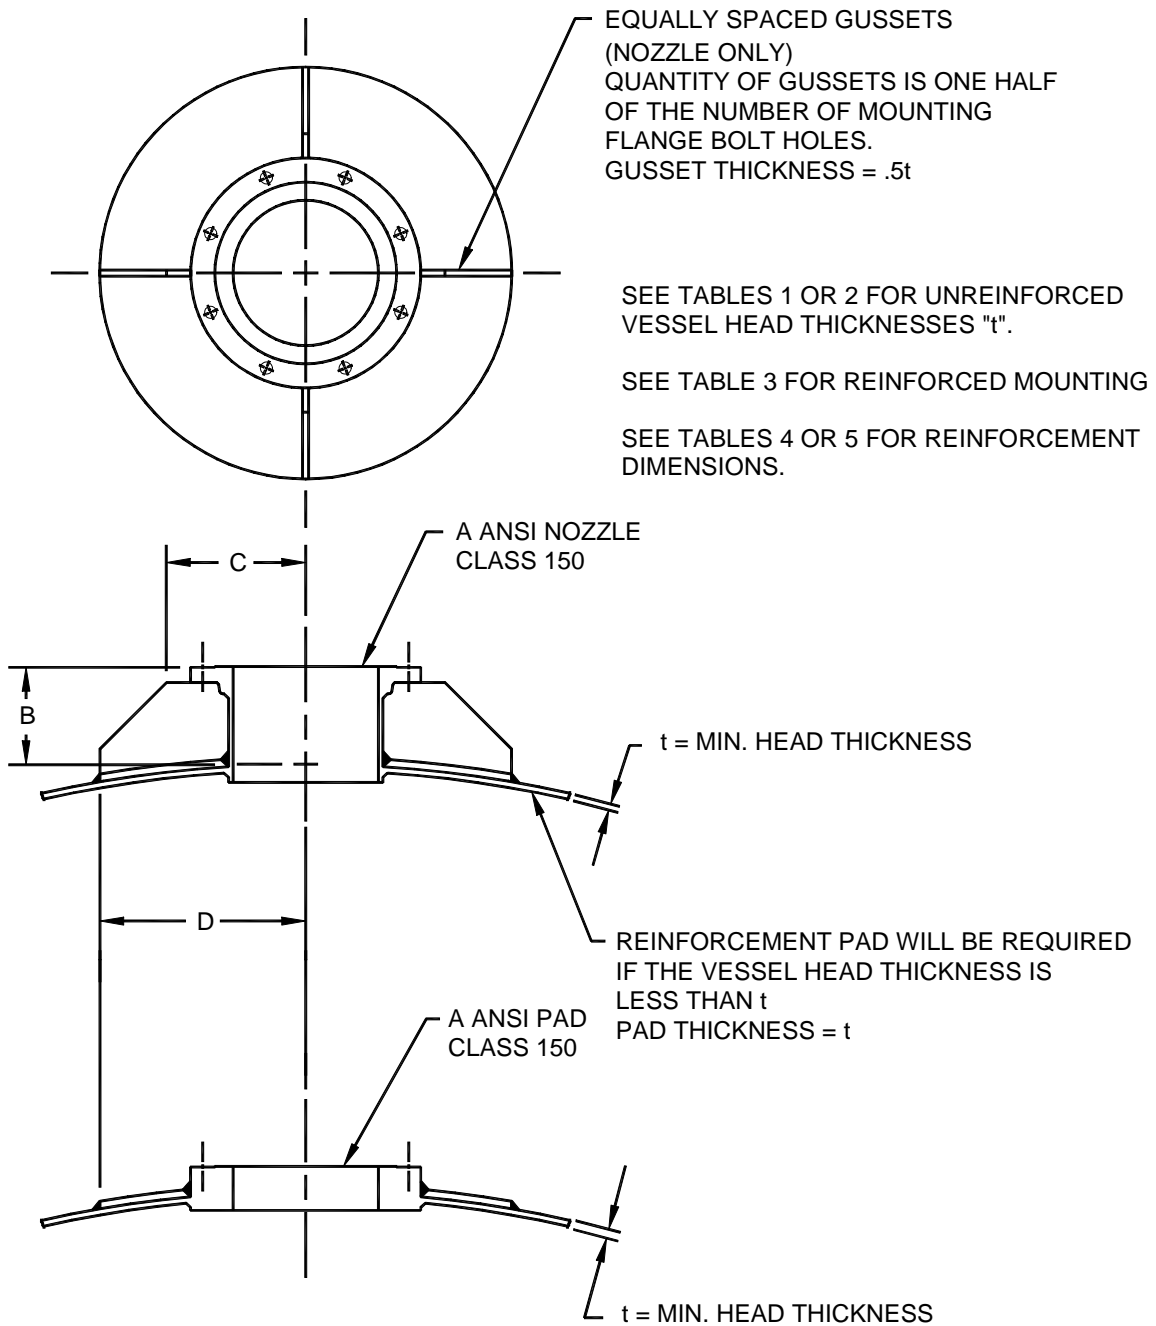

Figure 2: Models DTA, DTL Mounting, Nozzle/Pad
- If reinforcement is applicable, refer to *Tables 4 and 5, below and Figure 2, page 6* for proper reinforcement dimensions.